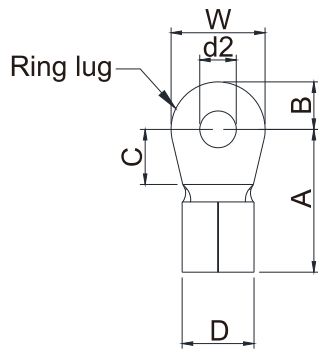
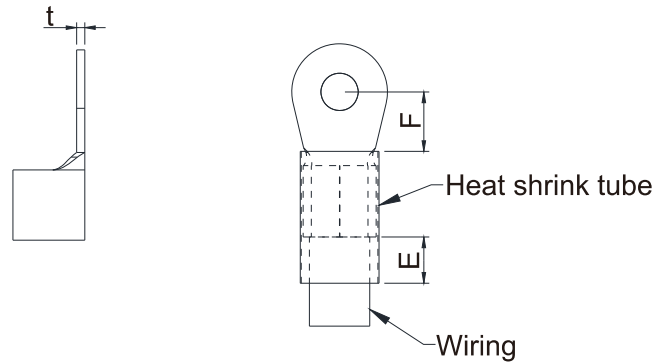

Fig.1
Fig.2
- Use the specified ring lug for main circuit terminal wiring. See Fig.1 and Fig.2 for ring lug specifications. For other types of wiring use the wires that comply with the local regulation.
- After crimping the wire to the ring lug (must be UL approved), UL and CSA approved R/C (YDPU2), install heat shrink tubing rated at a minimum of 600 V_{AC} insulation over the live part. Refer to Figure 2 below.